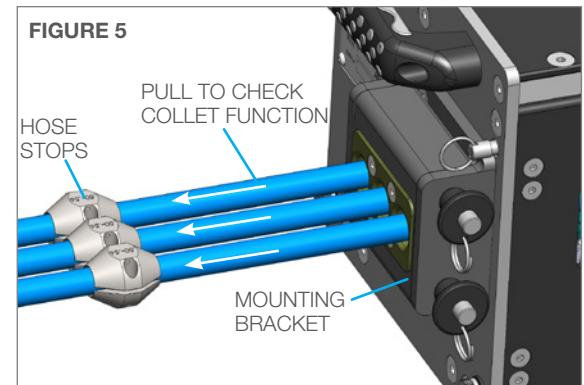

FIGURE 5
5. Pull on the hoses from the back of the AUTOBOX® (ABX-3L) Hose Tractor to ensure that the Collet does not allow the waterblast tool back out of the Guide or Hose Tractor. (**Figure 5**)
6. To install hose stops, push waterblast tools through the exchanger until the tips are 1-2" (25-51 mm) past the end of the tube bundle. Loosely install the stop, then push toward the mounting bracket and tighten in place. (**Figure 5**)